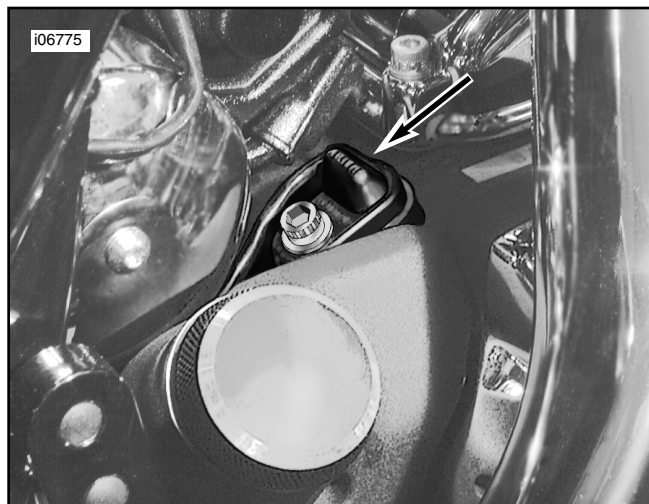

Figure 1. Vehicle Speed Sensor (behind engine oil fill plug/dipstick)
3. See Figure 1. Locate vehicle speed sensor and remove screw and the sensor from the existing transmission case.